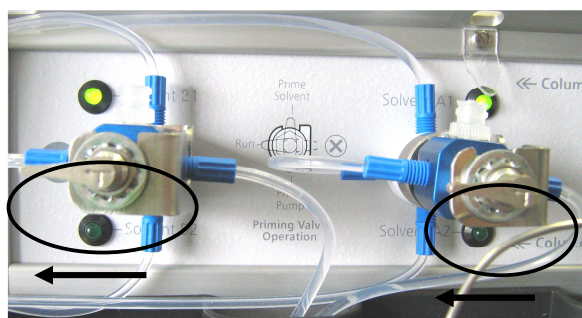

Figure 20: Valve position when in run mode
4. Once both lines have been flushed (step 2 and 3) put the valve switch back into the run mode (pointing the left) *Figure 20*.
1. Find the Configurator for Service from the Start Menu/Programs/Varian Integrated HPLC (Figure 20).